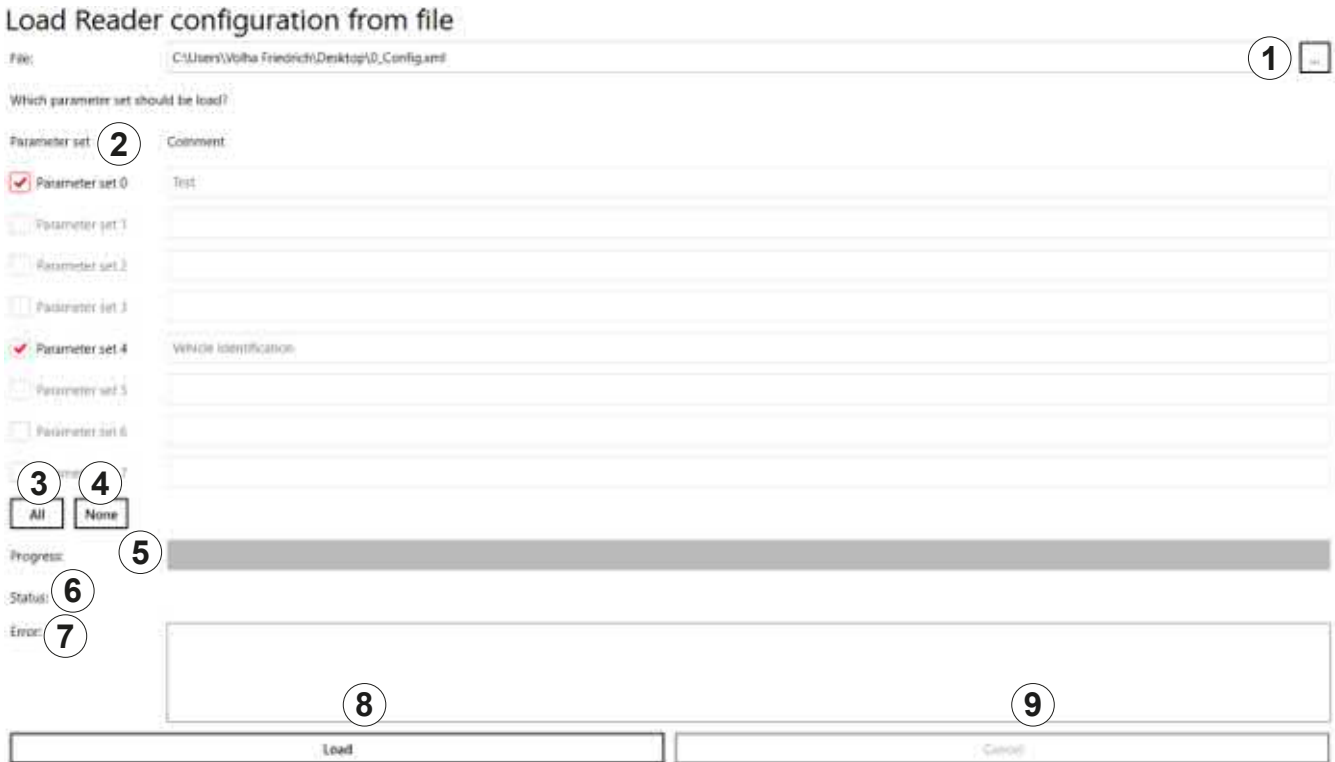

Fig. 26: File: load reader configuration from file
②	Parameter set	see Parameter set , p. 53
③	All	see All , p. 53
④	None	see None , p. 53
⑤	Progress	shows the progress of the load operation by means of the progress bar
⑥	Status	shows the status of the <code>SetParameterByConfigID</code> parameter
⑦	Error	shows errors in the <code>SetParameterByConfigID</code> parameter
<p>⑧ Load</p>	<p>loads the selected parameter sets to the reader</p> <p>✓ The parameter sets to be loaded have been selected/unselected.</p> <ol style="list-style-type: none"> 1. Click Load. <ul style="list-style-type: none"> ⇒ The progress bar (④) shows the progress of the save operation:  <ol style="list-style-type: none"> 2. Click OK to close the pop-up message. <ul style="list-style-type: none"> ⇒ The software returns to the view shown in Fig. 26, p. 55. 3. Click the X at the top right-hand corner or press Escape on your PC keyboard to leave the dialogue.